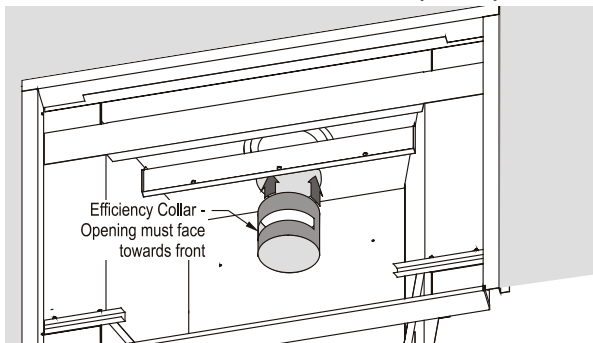

Figure 18. *Installing the efficiency collar.*
8. Install the efficiency collar as shown in figure 18. Use a long screwdriver to hold the collar out of the way while you install the